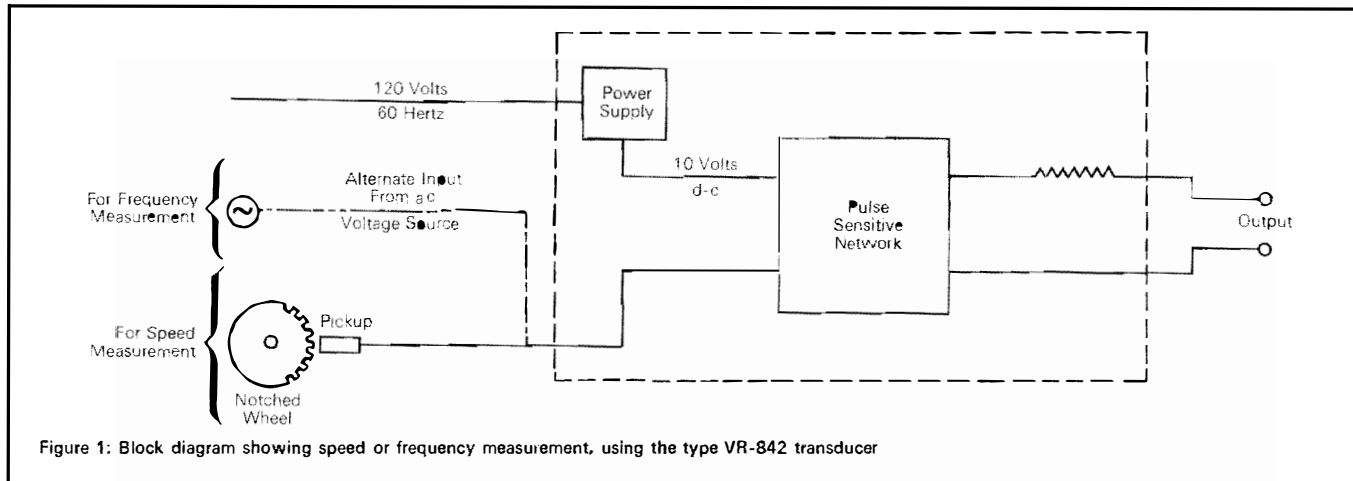

Figure 1: Block diagram showing speed or frequency measurement, using the type VR-842 transducer
**Speed Measurement:** As illustrated in Fig. 1, speed is easily measured by the pulse-creating action of a notched wheel (mounted on any rotating shaft) as it passes before the pulse tachometer's variable reluctance pickup, as in the type B-801 tachometer. Typical measurements include: